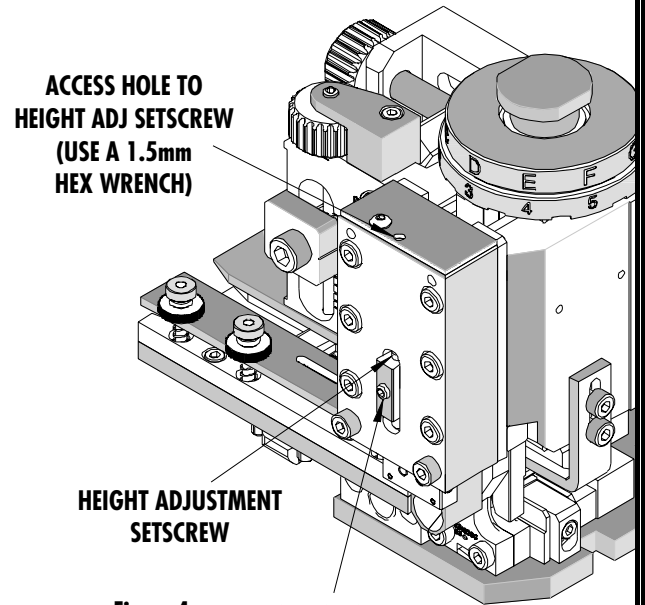

Figure 4 LOCK SETSCREW
3. The height adjustment screw is accessed through the hole on the top of the funnel slide. Using a 2.0mm hex wrench, turn the adjustment screw clockwise to raise the funnel or counterclockwise to lower the funnel. Proper adjustment should result in the insulation guide hole being concentric with the terminal barrel. See Figure 4.